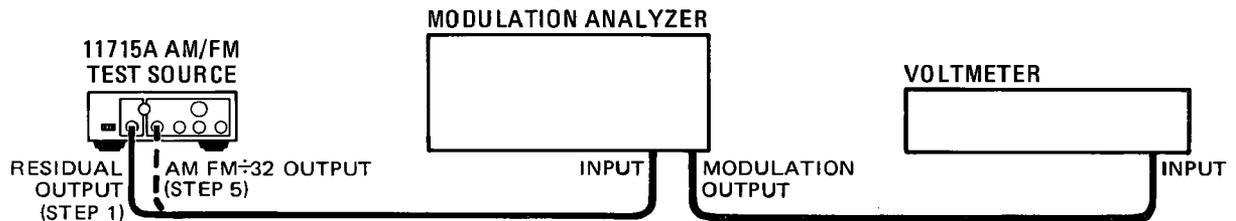

Figure 4-1. Residual FM and AM Test Setup
1. Connect the equipment as shown in Figure 4-1.